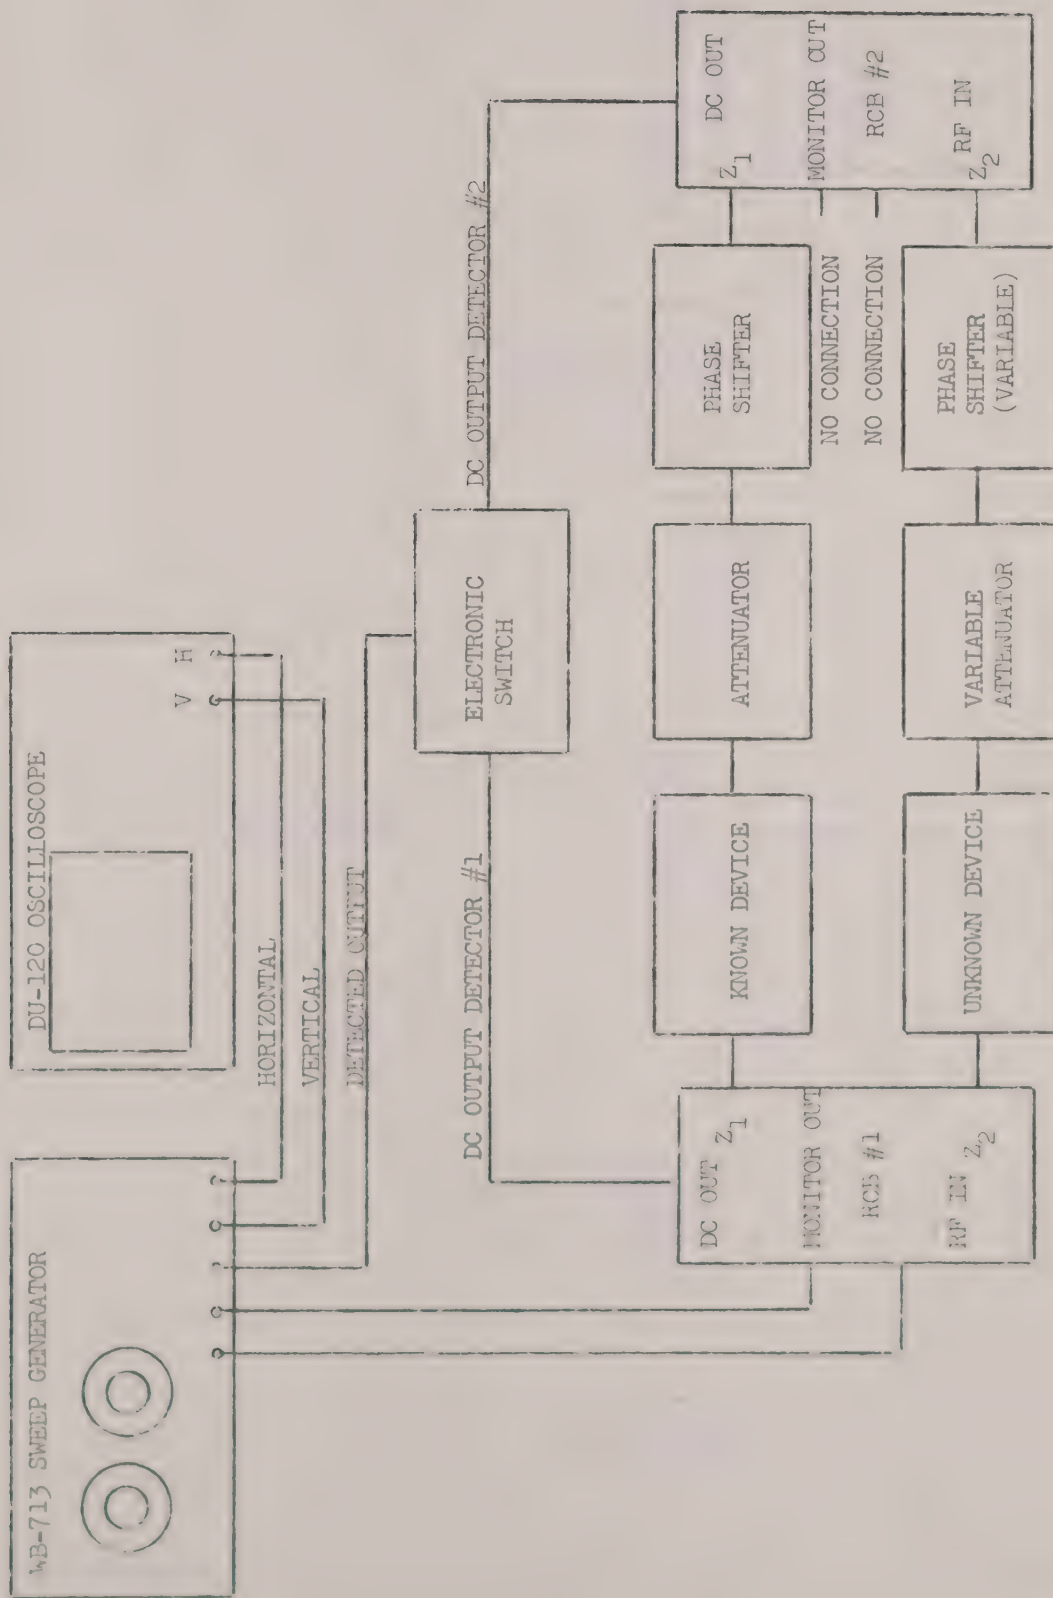

FIGURE 4-6: SETUP FOR DETERMINING AMPLITUDE AND PHASE CHARACTERISTICS
- 4.7.1 Set up the equipment as shown in Figure 4-6.
- 4.7.4 Insert the known and unknown devices per Figure 4-6.